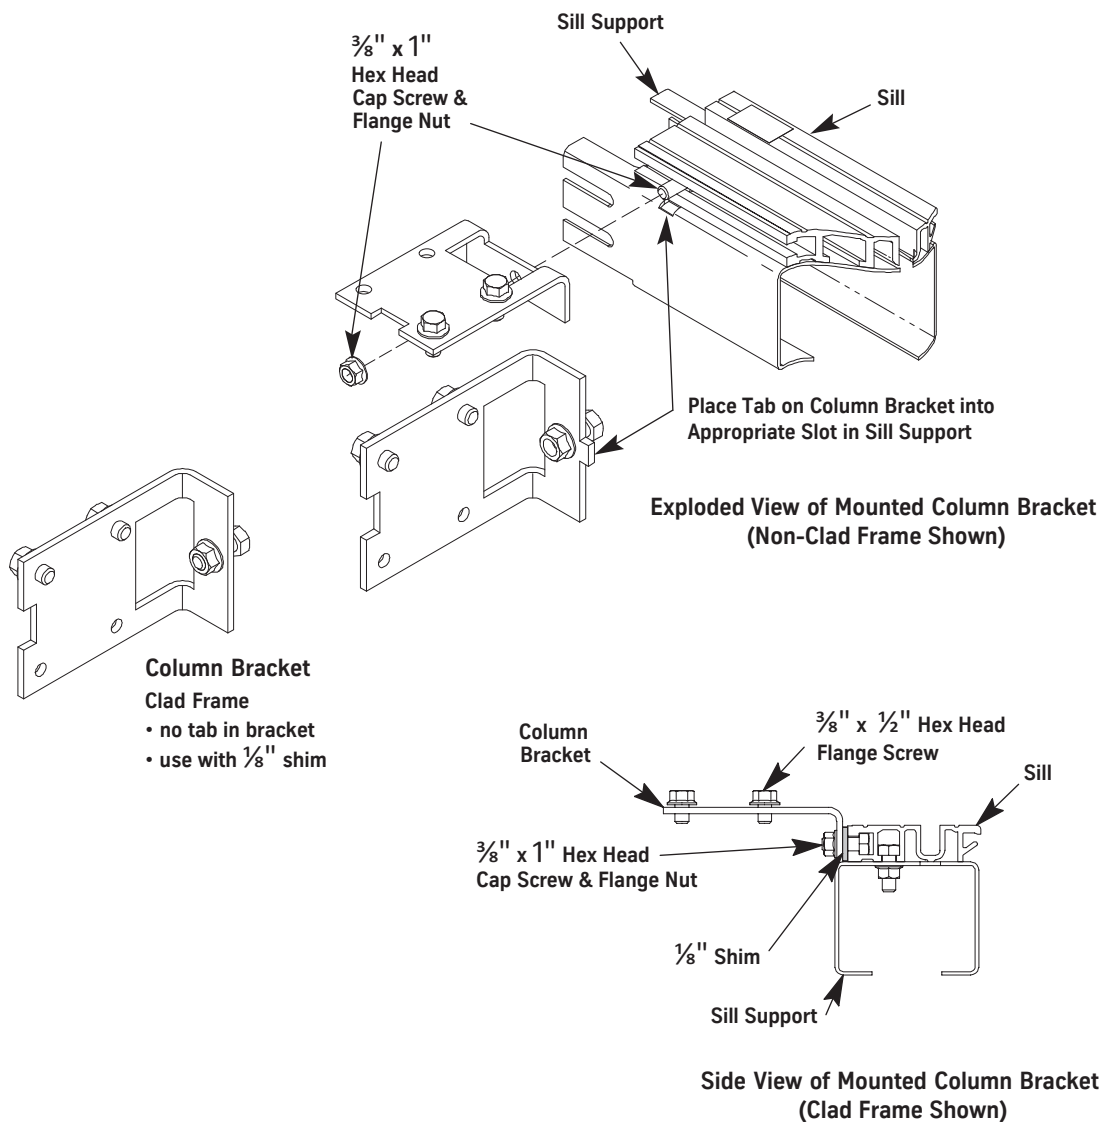

Figure 53 - Column Bracket Installation for Standard Sill
2. Remove the hex head cap screws from the column mounting brackets, and slip them into the slot on the back side of the sill. See Figure 53.